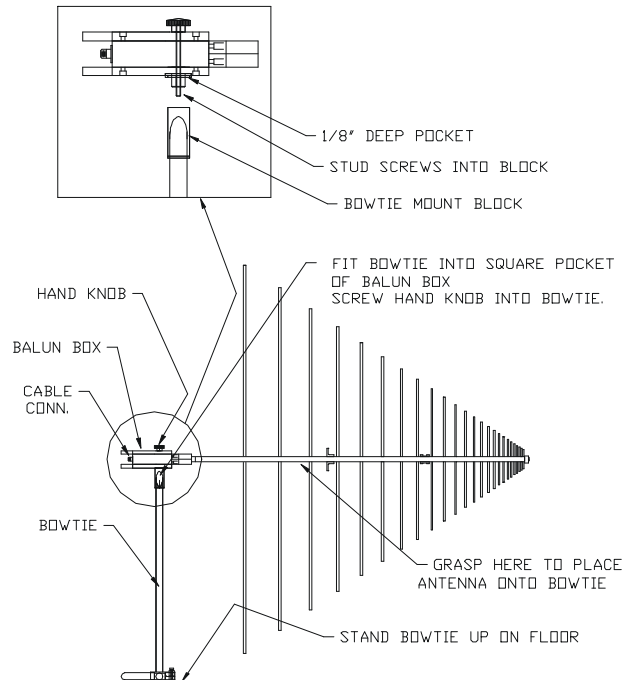

FIGURE 1 – Assembly Step 1
Step 1. Attach a bow-tie element to the antenna balun box (see Figure 1). The bow-tie should be standing vertical and the antenna held horizontal and attached to it using the hand screw knob. Supporting the antenna during the assembly process will eliminate stress at the connection of the balun box and prevent damage to the connection.